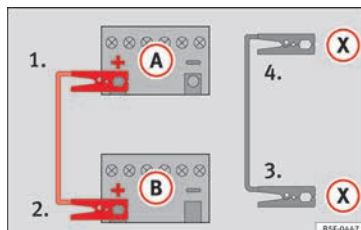

Fig. 77 Diagram of connections for vehicles with Start-Stop system.
– *For vehicles with Start-Stop system:* connect one end of the *black* jump lead (X) to a suitable ground terminal, to a solid piece of metal in the engine block, or to the engine block itself »» Fig. 77.
- Connect the other end of the *black* jump lead (X) to a solid metal component bolted to the engine block or to the engine block itself of the vehicle with the flat battery. Do not connect it to a point near the battery (A).